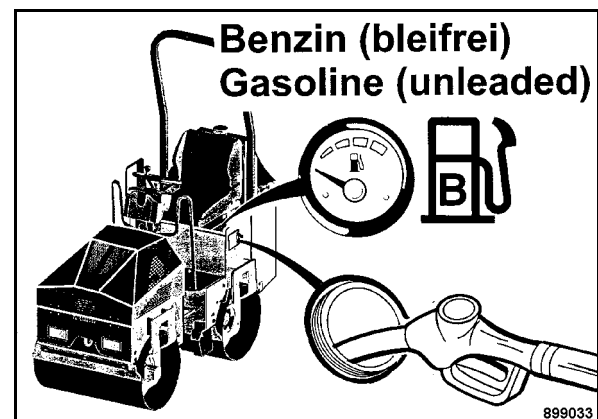

Fig. 60
- Check the fuel level in the fuel gauge (Fig. 60).